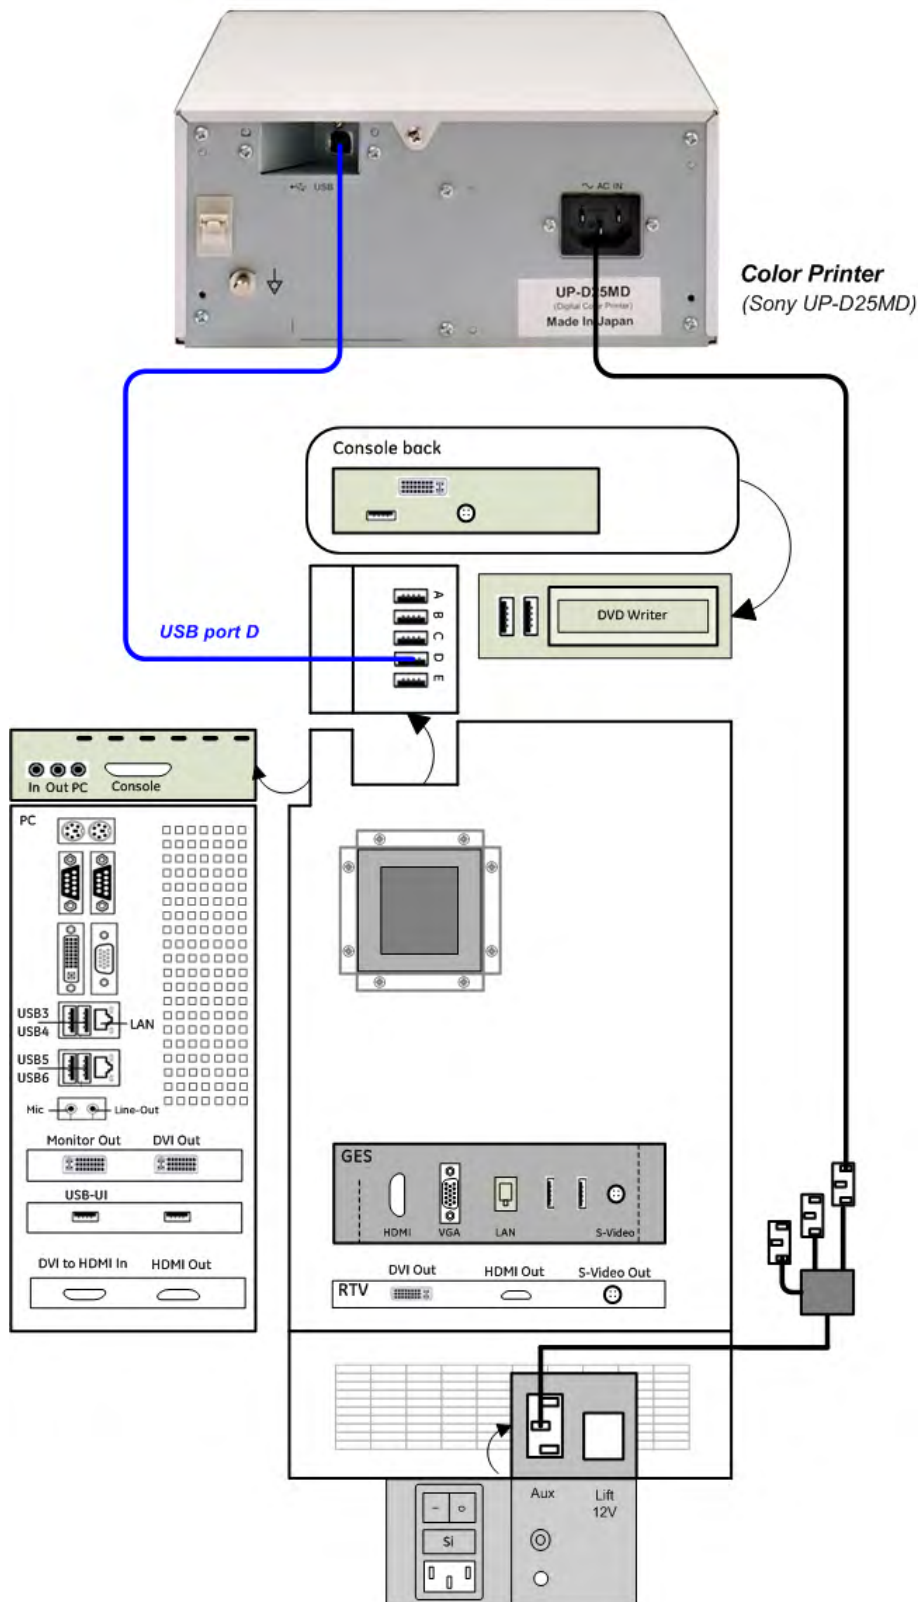

Figure 3-4 Color Printer connection
2. Connect the Color printer according to connection scheme, see: Figure 3-4 on page 3-14.